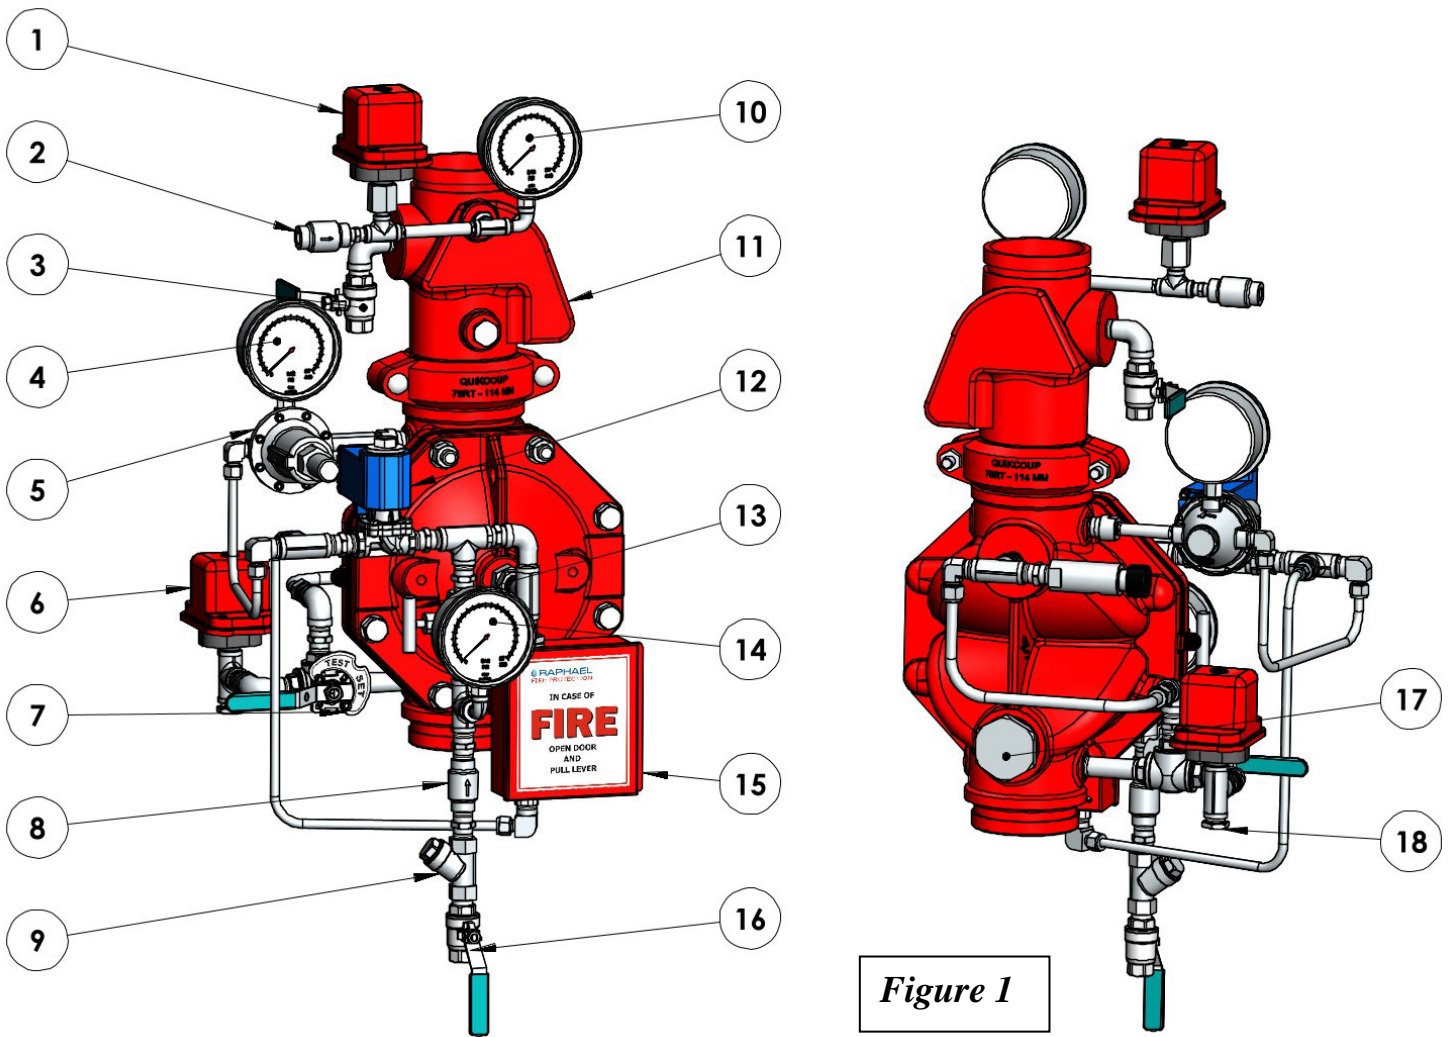

Figure 1
Operation (reference - figure 1)
Part list (reference figure 1)
- (1) – Trim pressure supply connection (1/2" NPT female)
- (18 fig. 1) – Water motor alarm connection (connect 1/2" to 3/4" NPT nipple) - optional
- (7) – Pressure switch connection – optional (1/2" NPT female)
- (11) – riser check valve drain ball valve (1/2" NPT female)
- (13) – air supply check valve (1/4" NPT female)
- (20) – MEU emergence valve drain tube (3/8" tube).